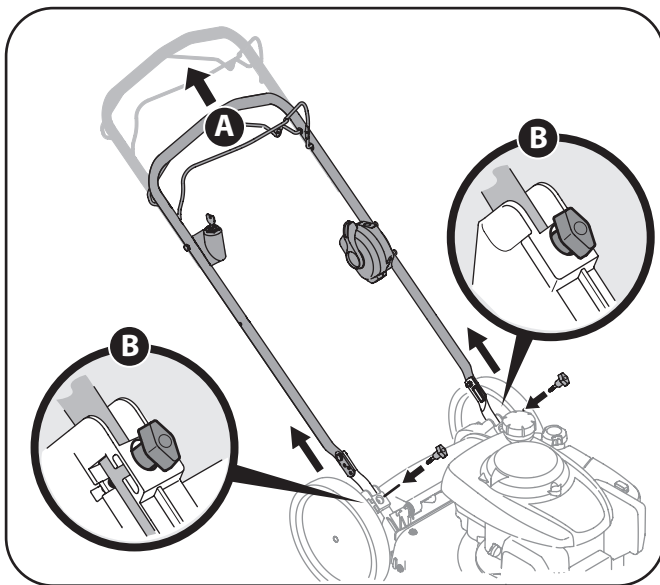

Figure 3-4
- a. Pull upward on the handle approximately 8 inches until holes in lower handle (shown in Fig. 3-3 deck cutaway) line up with holes in handle bracket. See Fig. 3-4.
handle brackets and lower handle and tighten securely to secure the handle in place. See Fig. 3-4.